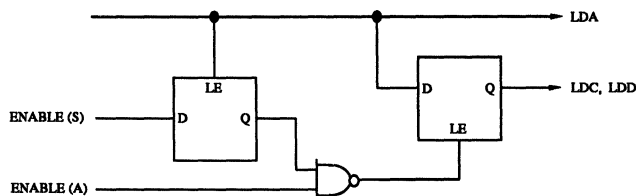
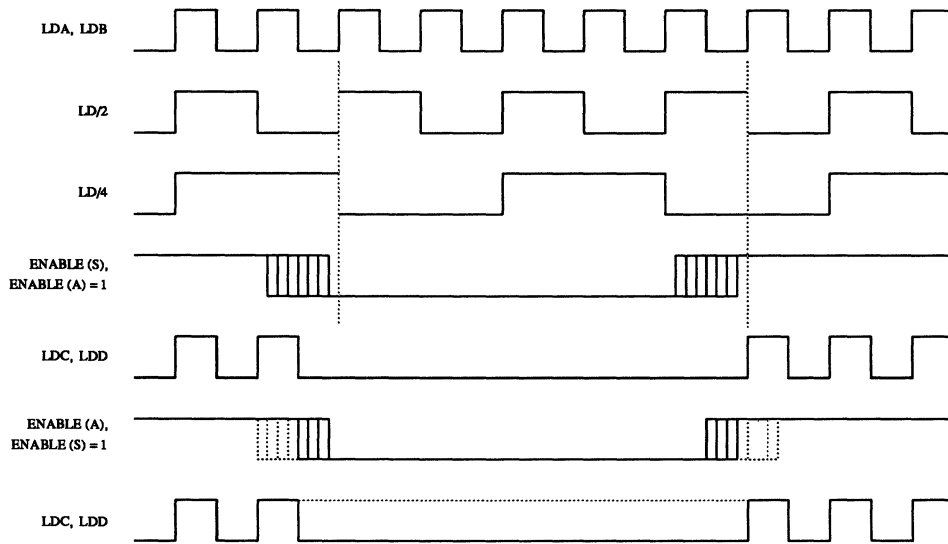

Figure 1. ENABLE Control Implementation.
Figure 2. Load Output Timing.
While both ENABLE (S) and ENABLE (A) are a logical one, LDC and LDD will be free-running and in phase with LDA and LDB. This architecture allows the shift registers of the video DRAMs to be optionally non-clocked during the retrace intervals. Figure 1 illustrates the ENABLE implementation within the Bt438, while Figure 2 shows the load output timing.